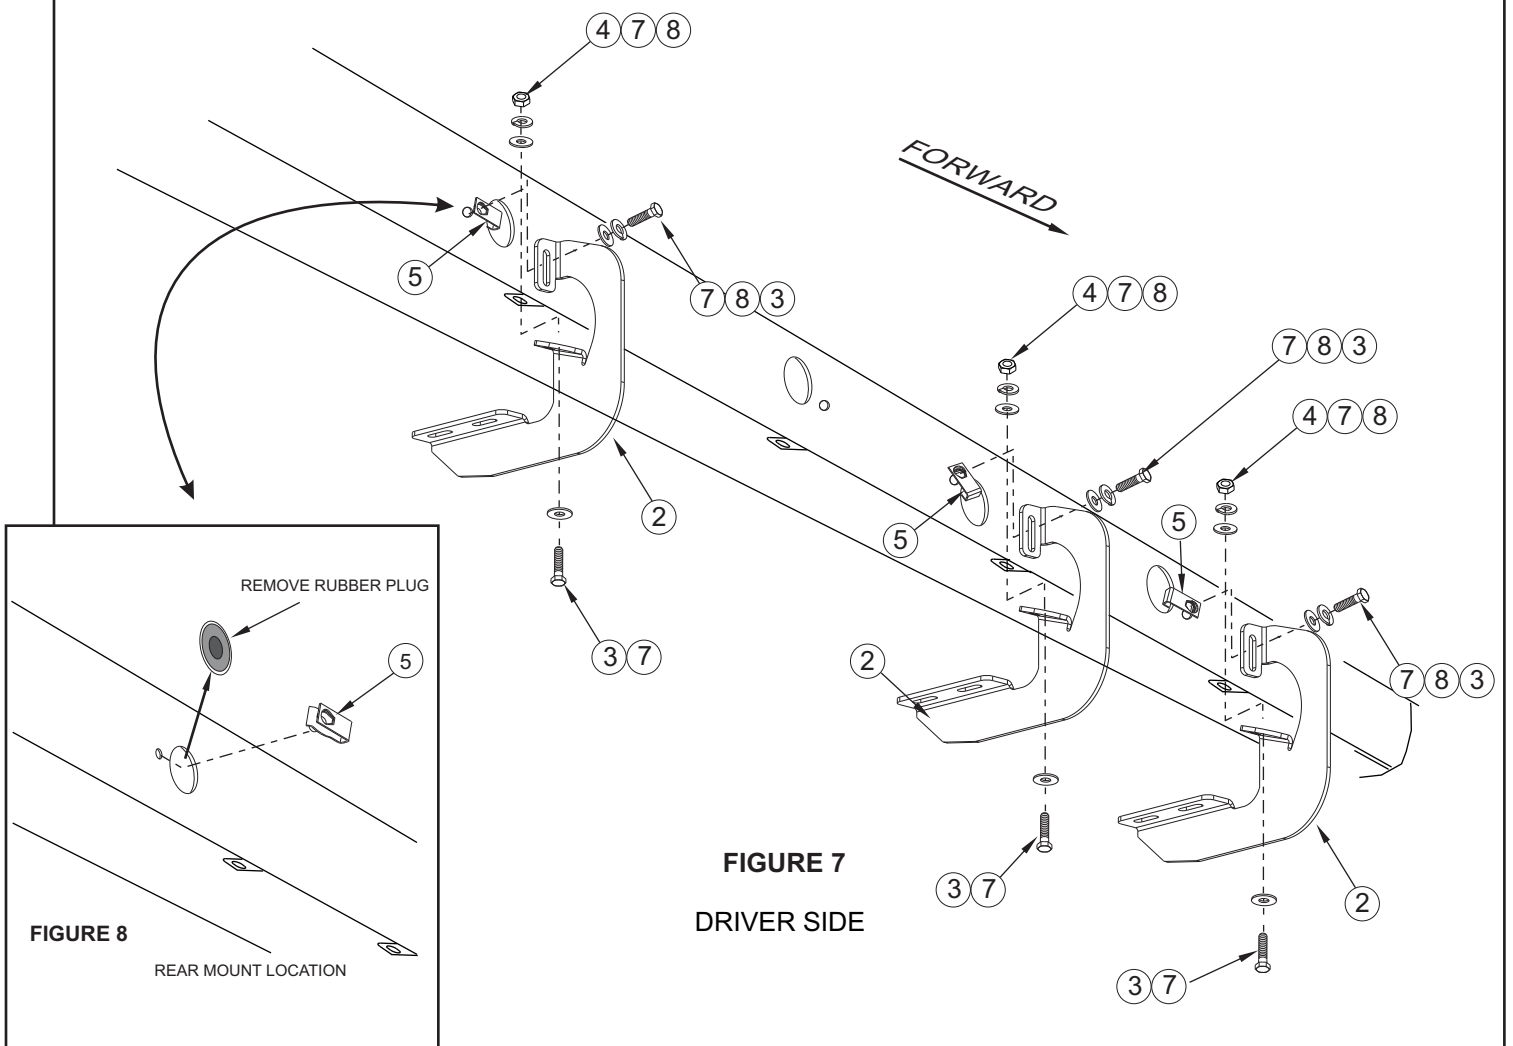

FIGURE 7
- STEP 2. Attach mounting brackets as shown. SEE FIGURE 7 AND 8. For late model diesel trucks SEE PG. 4 for the front passenger side mounting bracket.